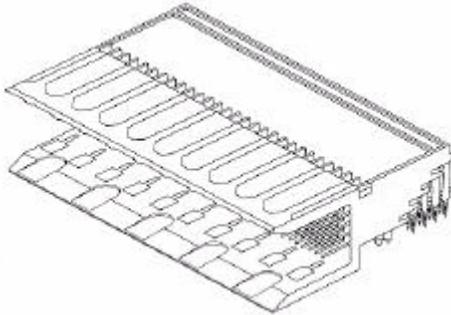

Figure 1
- The TECPS board is interfaced to the TEC Anode board using AMP Z-PACK 2mm Future Bus connectors. The Z-PACK connector is shown in Figure 1.